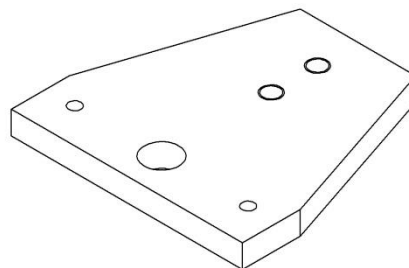

Fig. 21 Secondary counter balance plate
10. Remove the M16 cap head screw from the lifting boss located adjacent to the surface arm and place in a secure position for later use. Fit the secondary counterbalance plate (see Fig. 21). As above, attach a weight (large or small dependant on position of the arm). To the plate and adjust as required to achieve balance.